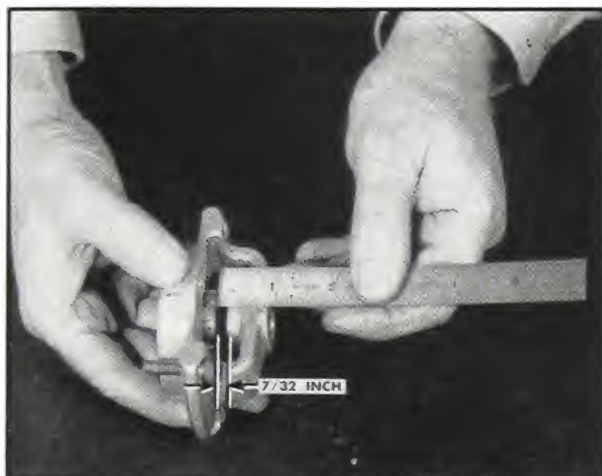

Fig. 5-367. Set idle adjusting screw
2. Turn the idle adjusting screw down until it is $7/32$ inch from the top bearing support. Fig. 5-367.